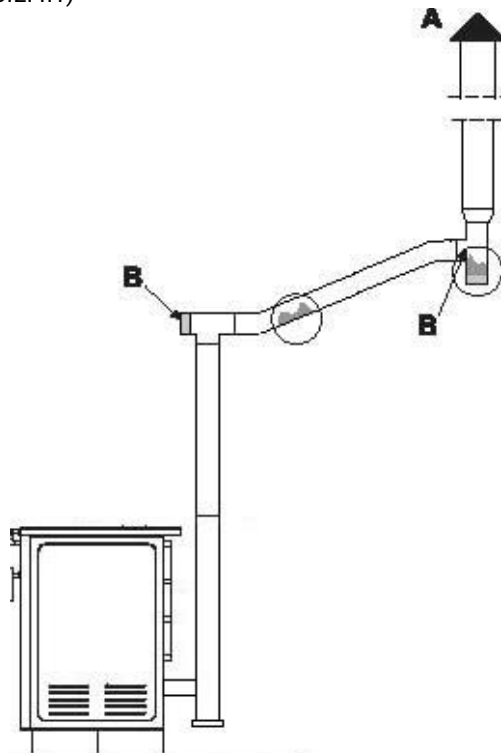

FIG.9.2.4.1
- A) Valve against the wind (Figure 9.2.4.1)
B) Access eye (Figure 9.2.4.1)